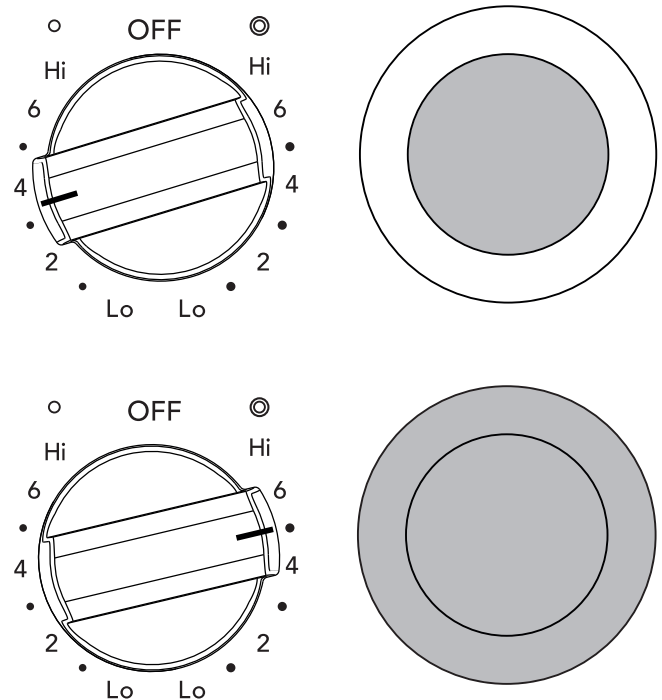

Figure 8: Dual element knob settings
2. Push in and turn the surface control knob clockwise to begin heating both the inner and outer elements. If only the inner element is needed for smaller cookware, push in and turn the knob counter-clockwise (see Figure 8).